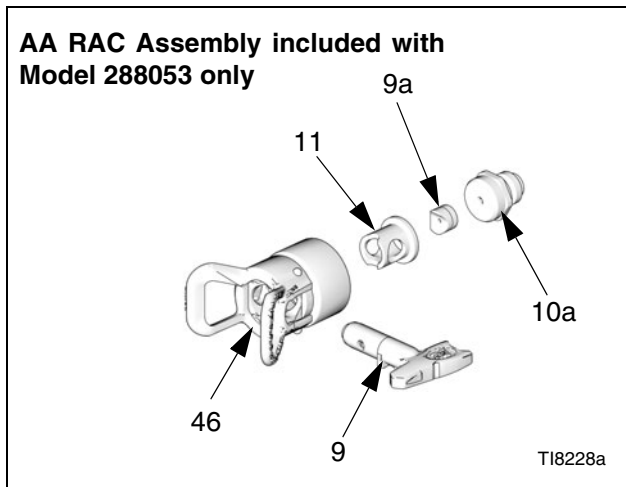

FIG. 18
Follow the Service Notes in FIG. 17 and FIG. 18 when reassembling the gun.
1. *Non-circulating guns only*: Lubricate the backup o-ring (7†) and o-ring (6†) and install them on the fluid outlet port plug (5). Install the plug in the fluid outlet port of the fluid housing (2). See FIG. 18.
2. *All guns*: Reinstall the gasket (4) in the fluid housing (2).
3. Install the o-rings (22*, 23*) on the piston (20). Install two o-rings (25*, 26*) on each of the piston stems. Lubricate all the o-rings, the piston, and the piston stems.